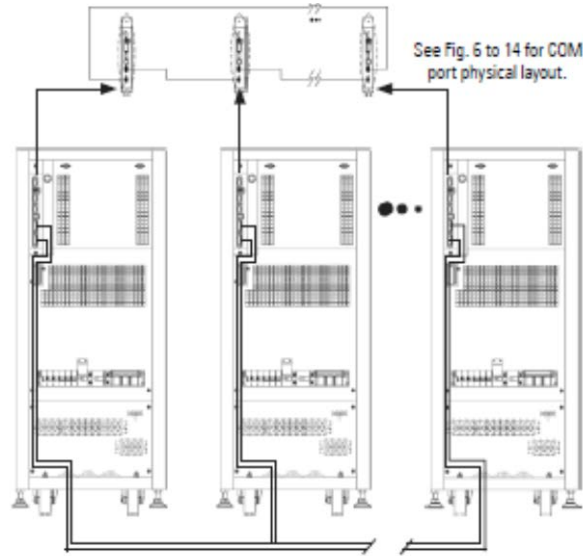

Fig.26. Connection of the communication BUS.
- Fig. 26 shows, how the communication BUS connections have to be done.
- The base of the front door (PF) has a slot to facilitate the entering and way out of the communication cables inside the UPS.